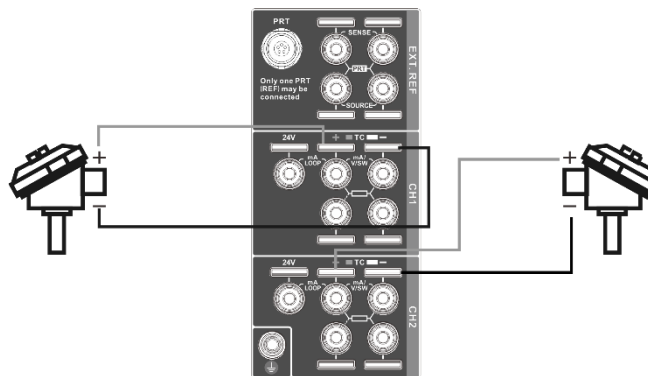

Figure 9 TC Connection
1. Thermal Couple (TC) Measurement Line Connection
Thermal Couple (TC) Measurement Line Connection as shown in Figure 9.